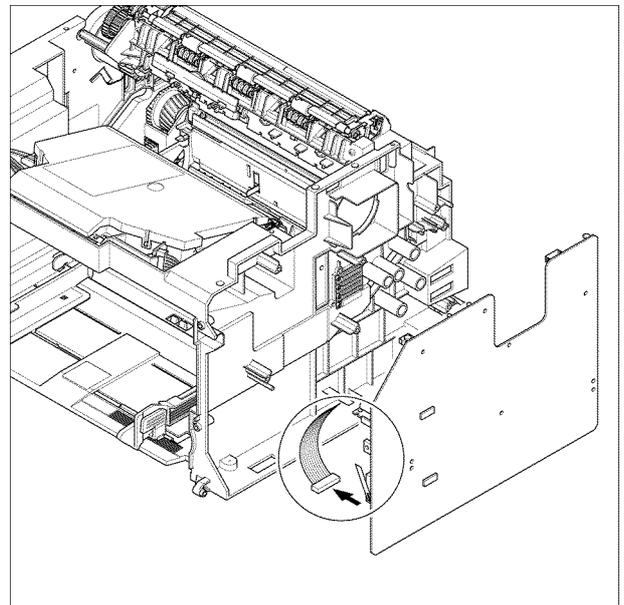

Figure 2
6. Disconnect CN 1 and CN 3, then remove the HVPS, Figure 2.